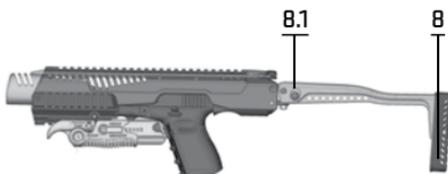

Fig 14
**Step 1.** Loosen the Buttstock Screw (8.1) (Fig. 14).